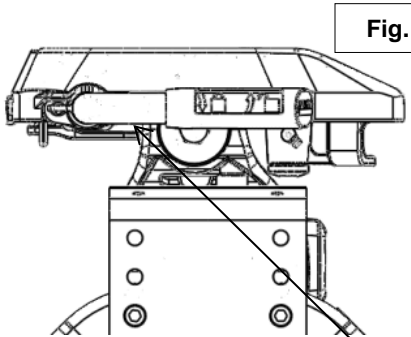
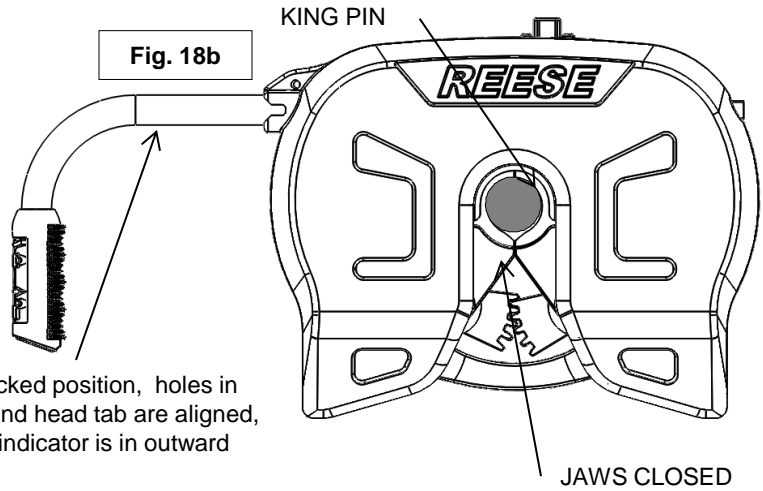

Fig. 18a
Fig. 18b
8. To ensure that the jaws are locked and closed, the handle must be rotated down and in the closed position and the kingpin indicator is in the outward position (See Fig 18a). **IF HANDLE DOES NOT ROTATE DOWN, THE TRAILER HAS NOT BEEN PROPERLY CONNECTED TO HITCH. DO NOT TOW!** Repeat above steps until trailer is properly hitched. (See Fig 18b)